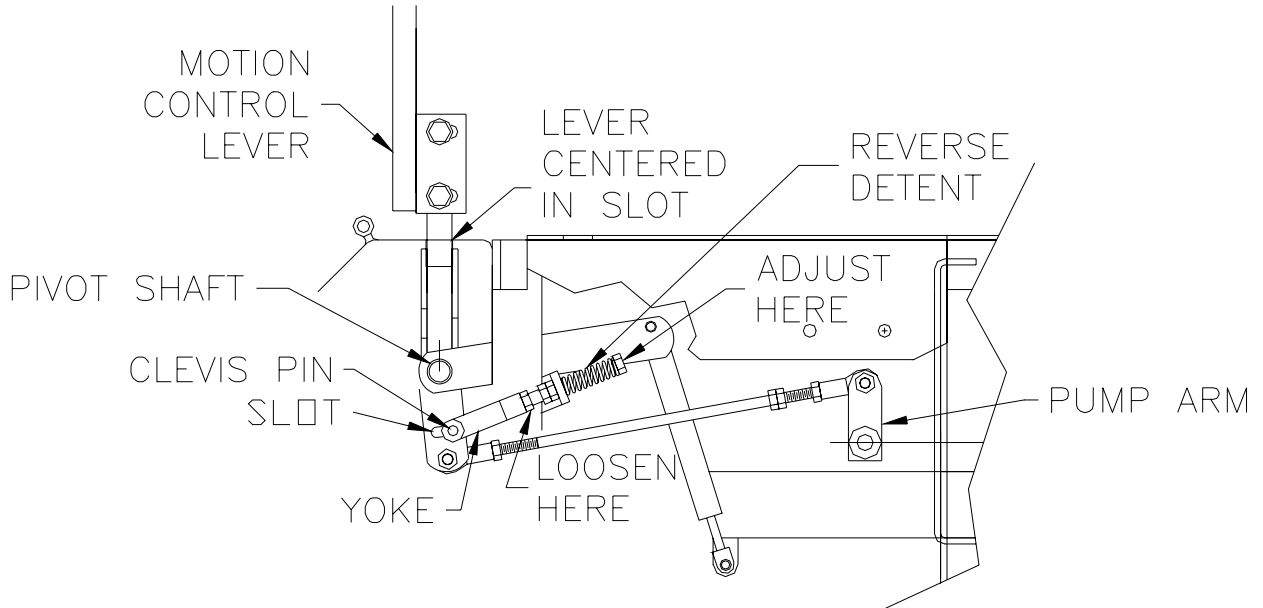

Figure 5A
3. Start with either the right or left motion control lever. Move the motion control lever to the neutral position then pull the lever back until the clevis pin (on the arm below the pivot shaft) comes into contact with the end of the slot. At this point slight spring pressure should be felt (See Fig 5a).